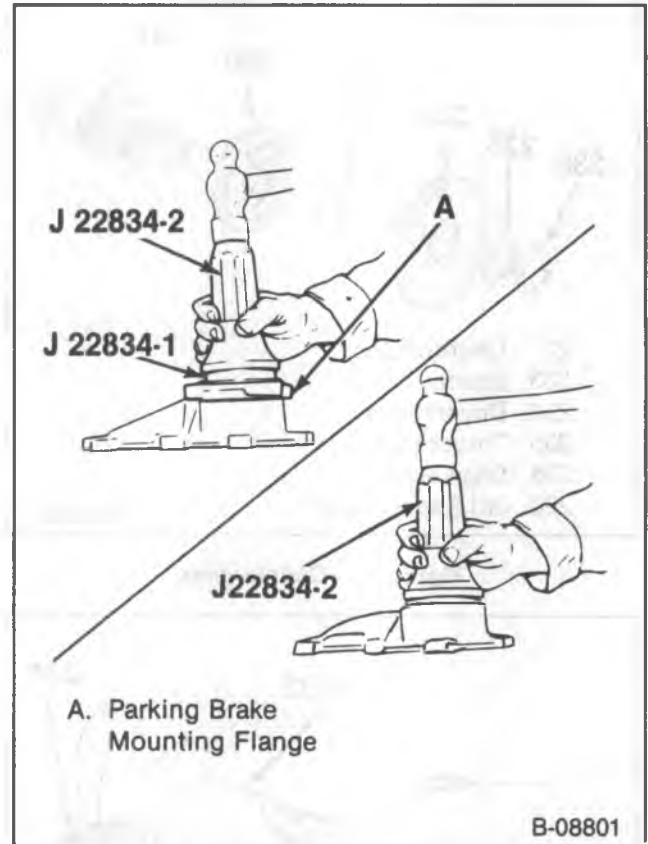

Figure 28—Installing the Rear Bearing Retainer Oil Seal
1. Locking compound on the outside of a new seal (222).
2. New seal, using J 22834-2 (figure 28).